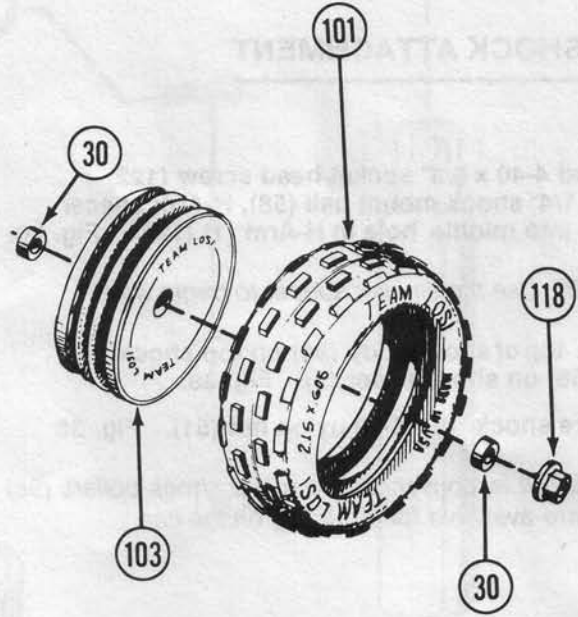

FIG. 38
2. Inspect inside of tires [Front (101), Rear (102)] for any excess material. If present, trim excess rubber to insure proper seating of tire on rim. During tire assembly make sure all lettering faces the outside rim. Fig. 38 & 39.
3. Pull front tire (101) over front wheel (103). Squeeze tire to properly seat in grooves. Fig. 38.
4. Install two 3/16" x 3/8" bearings (30) in each front wheel. Fig. 38
6. Tires and wheels are now ready for installation on axles. Install rear wheels taking care to align 1/16" x 7/16" pin (62) with groove in rear wheel. Secure wheels with a 10-32 nylon nut (118). Fig. 38 & 39